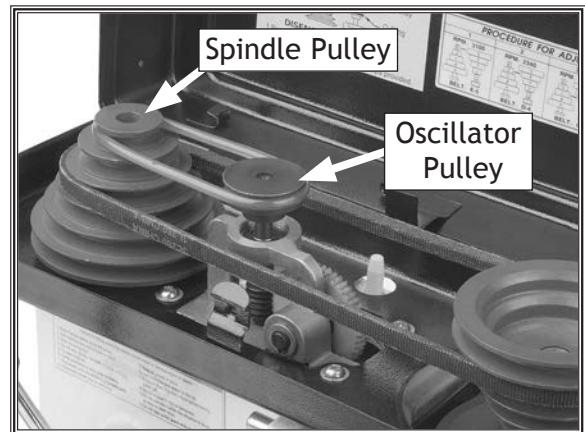

Figure 34. Oscillator belt around spindle and oscillating pulleys.
4. Stretch oscillator belt onto top groove of spindle and oscillating pulleys (see Figure 34).